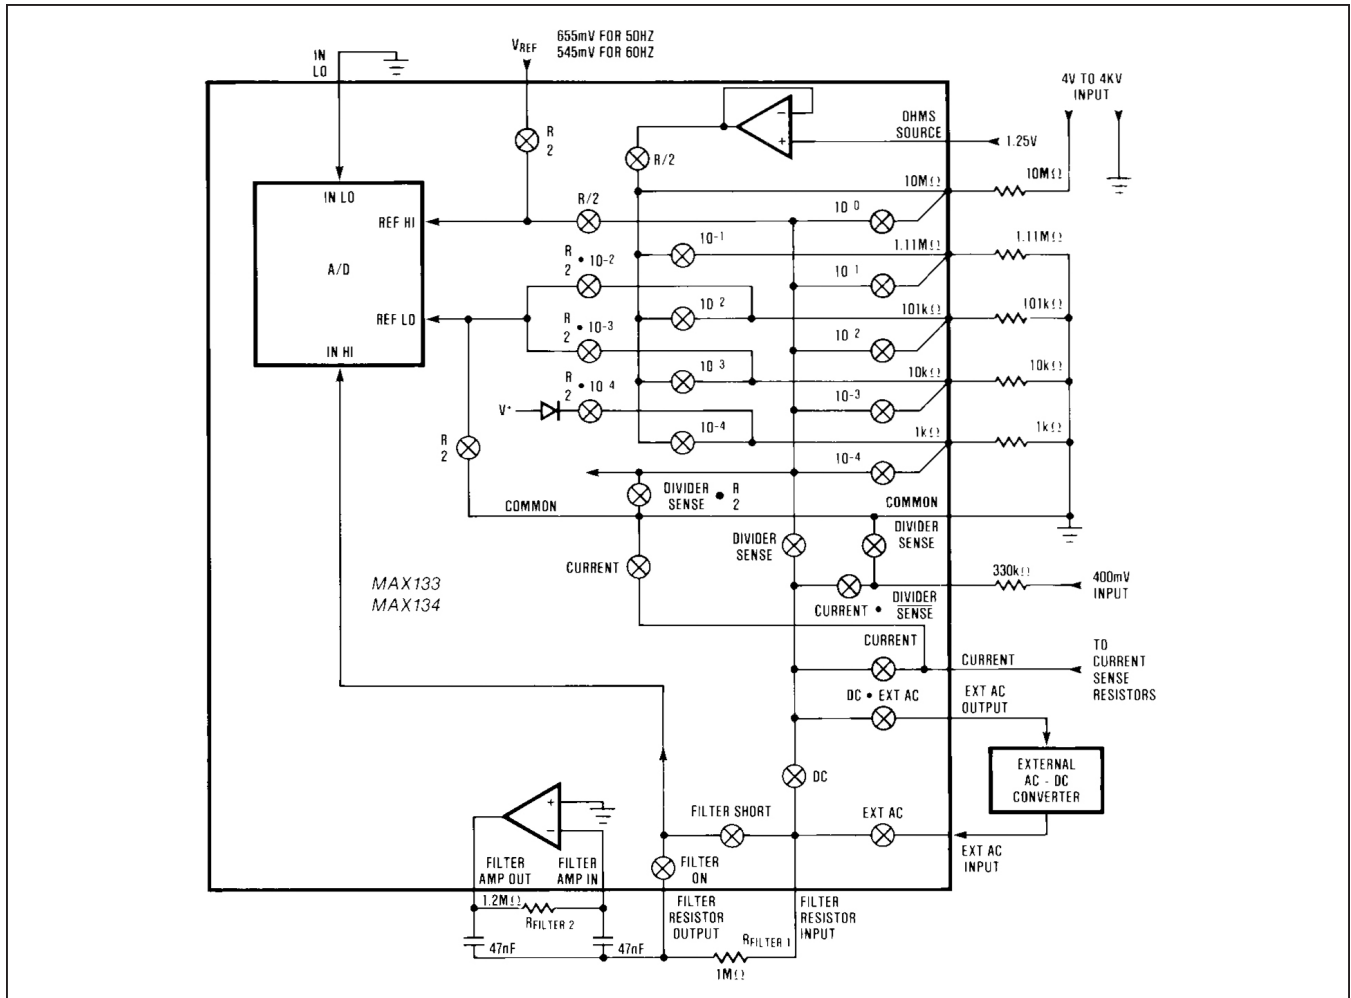

Figure 1. MAX133/134 Input Section
In voltage measurement ranges other than 400mV, voltages are applied to the pin labeled 10M $\Omega$  through a 10M $\Omega$  resistor. By selecting the proper shunt resistors (1.1M $\Omega$  through 1K $\Omega$ ) the input voltage will be attenuated to a 400mV range. The input attenuator switch section includes analog switches to switch both the input current and to sense the voltage on the shunt resistor. Other input switching functions select between the output of the input attenuator and the voltage developed across the current sensing resistors during current measurement. See Figure 1.
**Filter On and Filter Short.** These bits control the active filter. See Figures 1 and 3.